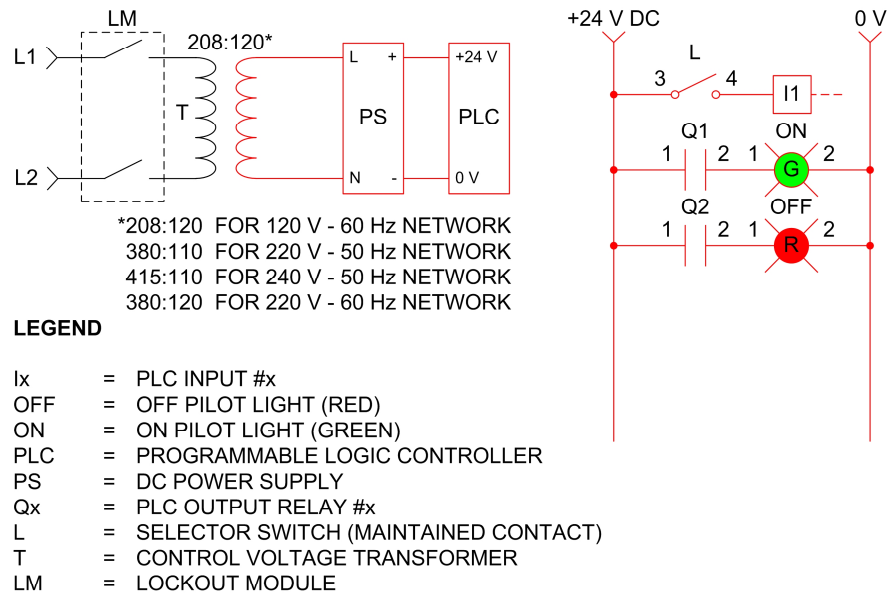

Figure 1-24. Connection diagram of the PLC timing relay circuit.
- ☐ 3. Connect the PLC inputs and outputs according to Figure 1-24.